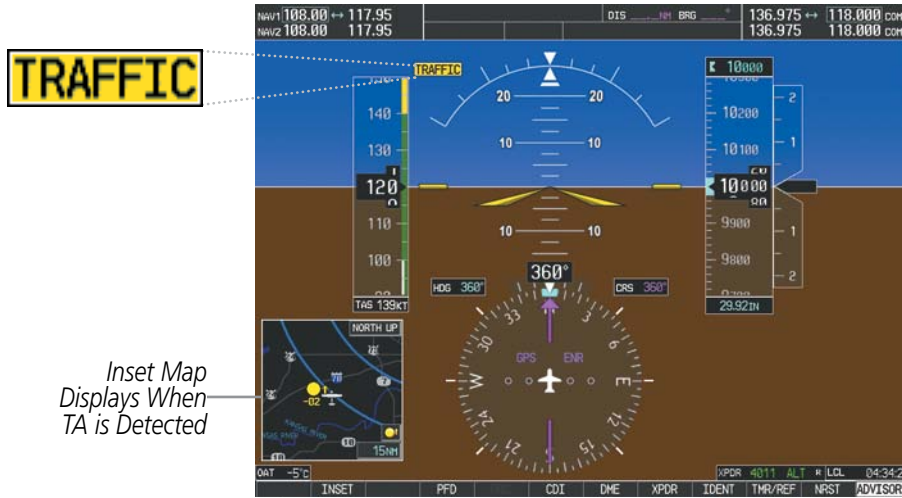

Figure 6-162 Traffic Annunciation (PFD)
- A TRAFFIC Annunciation appears at the top right of the airspeed on the PFD, flashing for five seconds and remains displayed until no TAs are detected in the area (Figure 6-162).